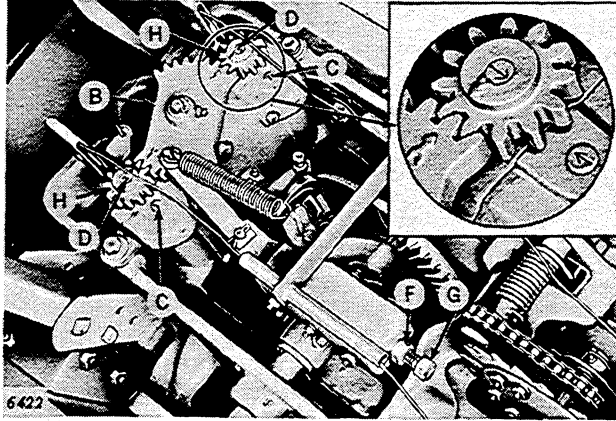

Figure 45
1. Remove cut-off shaft driving gear segment "B", Figure 45, from its shaft.
3. Replace gear segment "B", Figure 45, so timing arrows on gear segment and cut-off shaft pinions "H" point together.
2. To change position of points "E", loosen lock nut "F", Figure 45, and turn set screw "G" in or out. This will force the gear segment "B" to turn the cut-off shaft pinions "H", Figure 45, which will retard or advance the cut-off and kinker shafts.